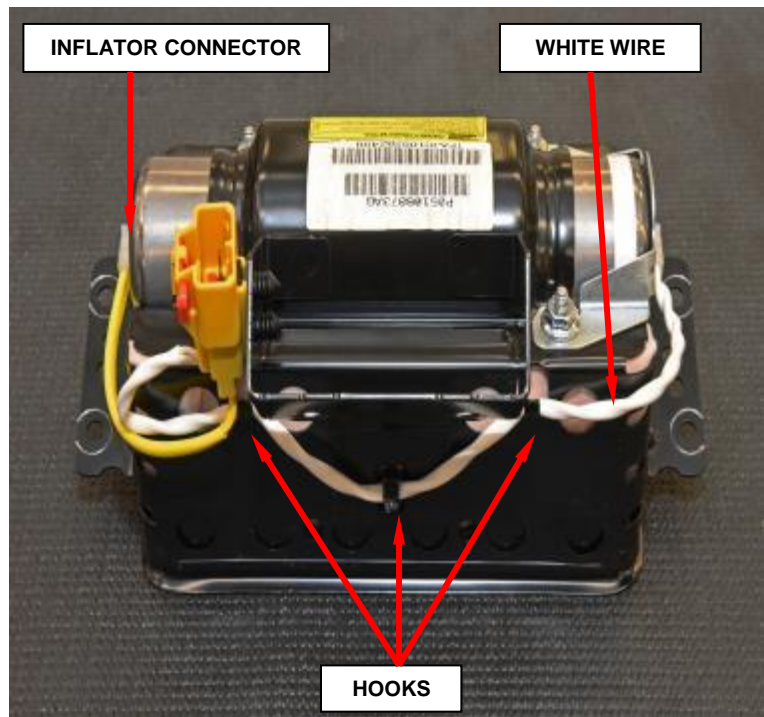

Figure 83 – Retrofit Complete
- r. Attach the white wire to the three hooks on the housing (Figure 83).
- t. Connect the single yellow wire inflator connector to the end of the inflator after removing the protective tape from the end of the inflator (Figure 83).
- u. Passenger airbag retrofit is complete (Figure 83).